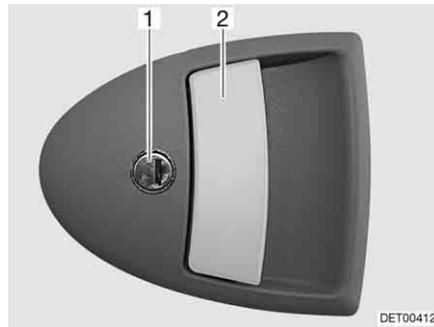

Fig. 31 Door lock of conversion door, outside
- Insert the key into locking cylinder (Fig. 31,1) and turn until the door lock is unlatched.
- Pull on the handle (Fig. 31,2). The door is open.
- Insert the key into locking cylinder (Fig. 31,1) and turn until the door lock is engaged.